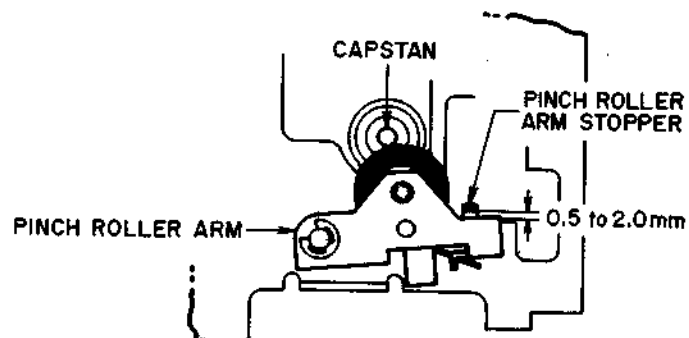

Fig. 5 Gap between pinch roller arm and stopper
3) Adjustment of Gap between the Pinch Roller Arm and Stopper (Refer to Fig. 5)